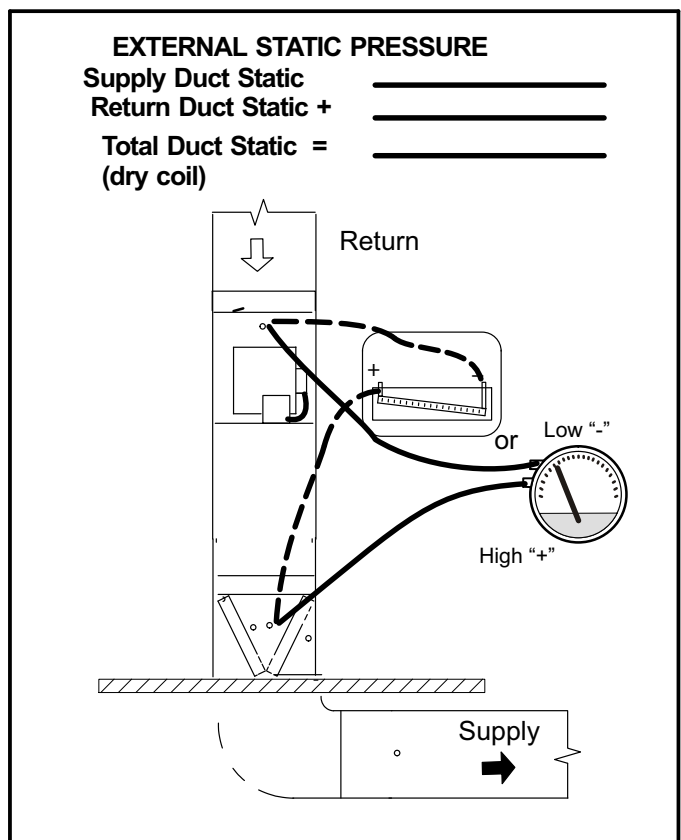

FIGURE 14
- 1 - Tap locations shown in figure 14.